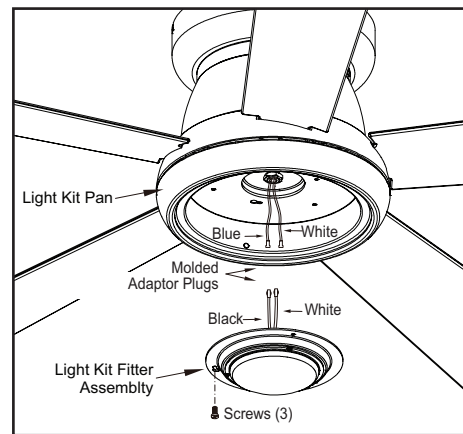

Figure 12
3. Remove one screw from the light kit pan and loosen, but do not remove the other two screws. Connect the wires from the light kit fitter assembly to the wires from the fan motor assembly by connecting the molded adaptor plugs together. Carefully tuck all wires and splices into the switch cap. (Figure 12)
4. Push the light kit fitter assembly up so that the two loosened screw heads fit into the keyhole slots. Turn the light kit fitter assembly clockwise, tighten the screws. Re-install the screw that was removed in step 3 and tighten firmly. (Figure 12)